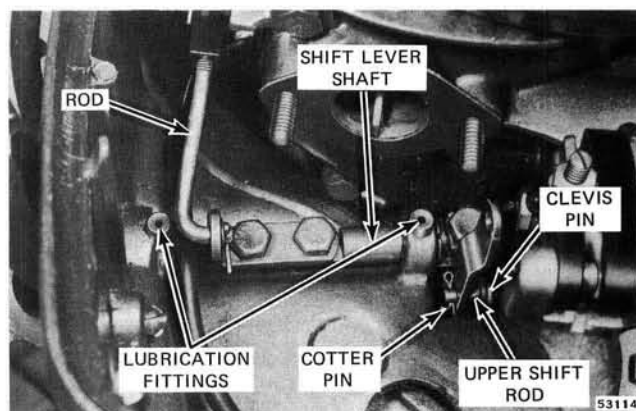

Figure 6-7. Upper Shift Rod to Lever Pin
4. Remove upper shift rod cotter pin and clevis pin. See Figure 6-7. On electric start model, remove cable and clamp from inside of port side stern bracket.
11. Connect upper shift rod to shift lever shaft bell-crank with pin, bow washer, and install new cotter pin. See Figure 6-7.